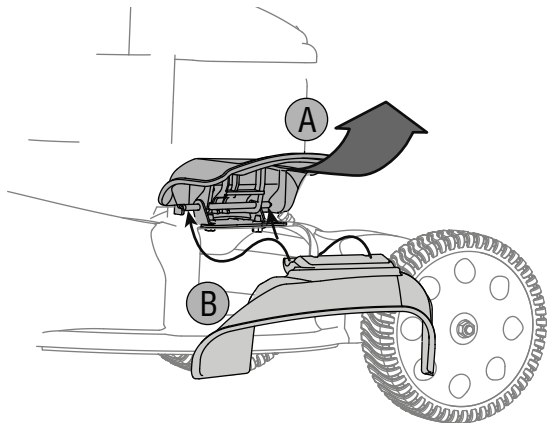

Figure 3-8 - Optional Feature
- a. On the side of the mower deck, lift the hinged mulching plug. See Figure 3-8.